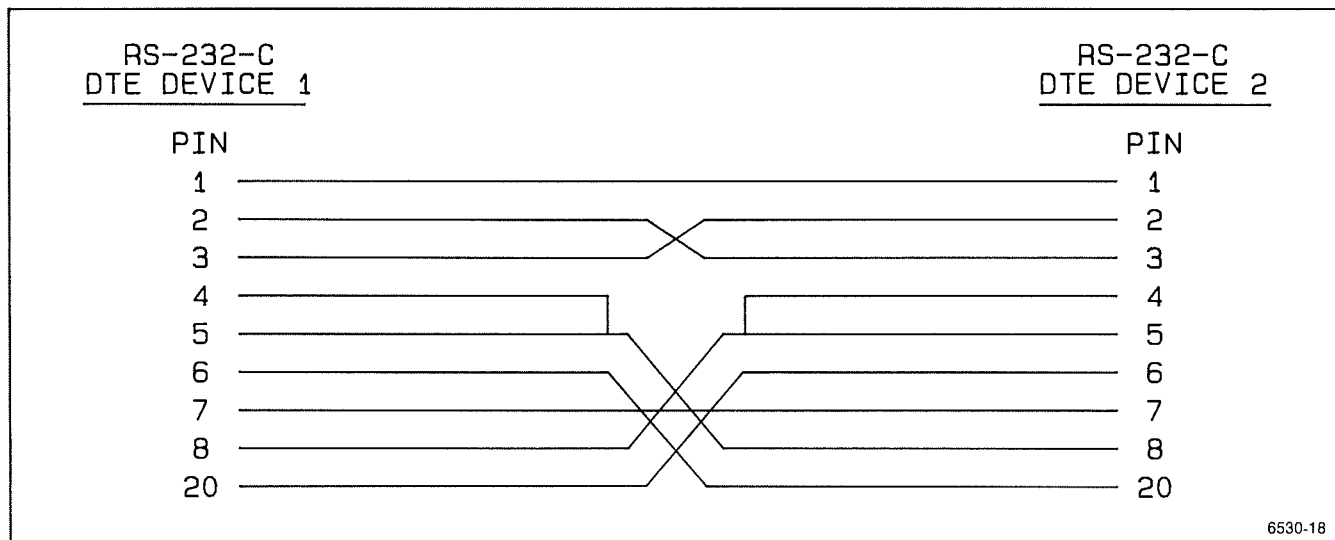

Figure B-1. Null Modem cable wiring (non-handshaking).
2. A "Null Modem" cable or device may be used to interconnect two DTE or two DCE devices. Generally the cable is custom made with RS-232-C connectors that match the devices to be interconnected. A null modem cable permits two devices of the same type (DCE to DCE and DTE to DTE) to communicate as if they were connected DTE to DCE. The Transmit and Receive lines and the associated handshake line are swapped in the null modem to satisfy the requirements for data transfer between the two devices. See Figure B-1 for the "Null Modem" cable wiring schematic.